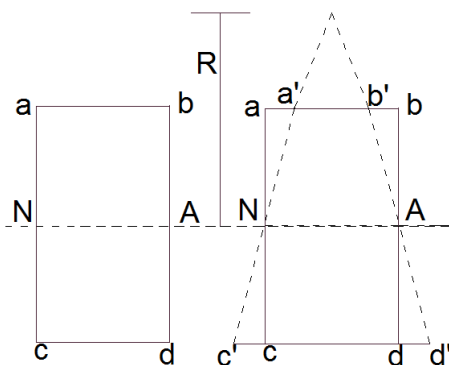

Fig.6
- As shown in Fig.6 is a member having cross-section is acted by sagging moment than the extreme fiber will experience maximum change while as we move toward the neutral axis the change will be less and at neutral axis there will be no change.